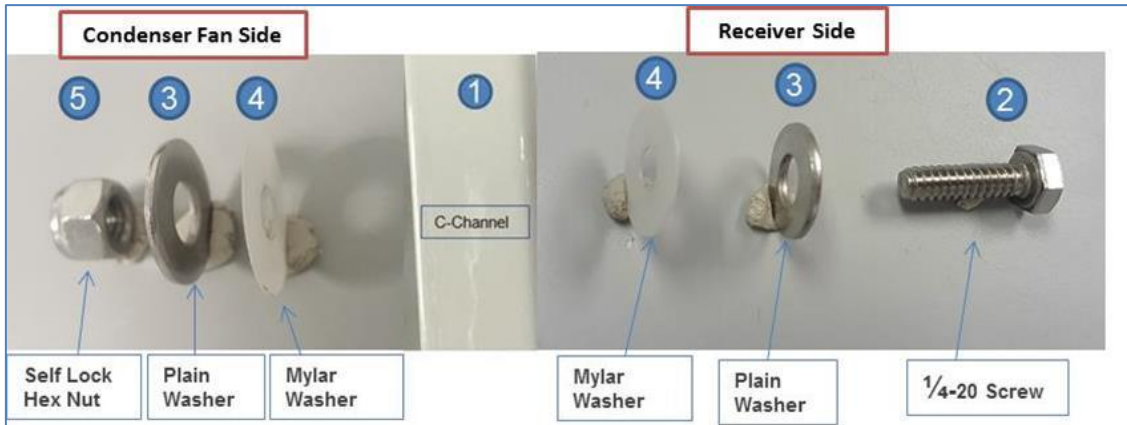

Figure 8
- 1.5 Install the C-channels: - The installation of the kit components is as shown in Figure 8: